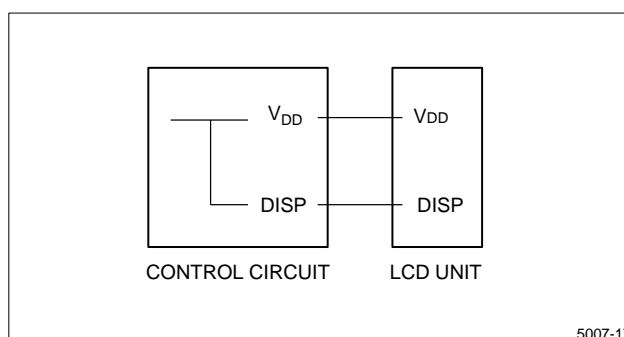

Figure 16. Connection Without DISP Control
2. Connection of DISP (pin number 4), refer to Figure 16.